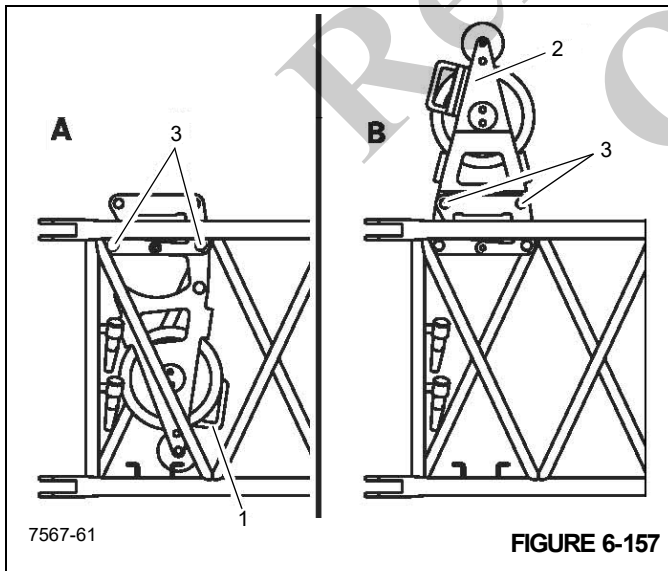

FIGURE 6-157
1. Remove the retaining clips from the pins (3), (Figure 6-157).
2. Hold the deflection sheave by the handle (1), (Figure 6-157) and pull out the pins (3), (Figure 6-157).
3. Fold the deflection sheave up by the handle (1), (Figure 6-157) and insert the pins (3), (Figure 6-157).